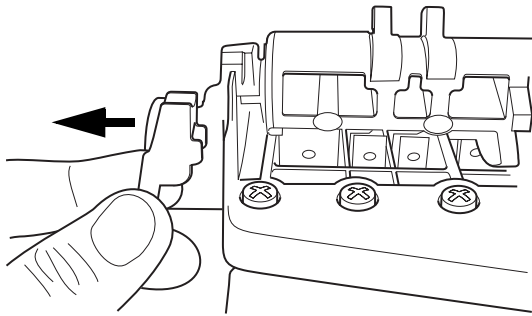

Figure 12
- Remove the yellow camshaft clip from the rear top plate hoop (Figure 12).